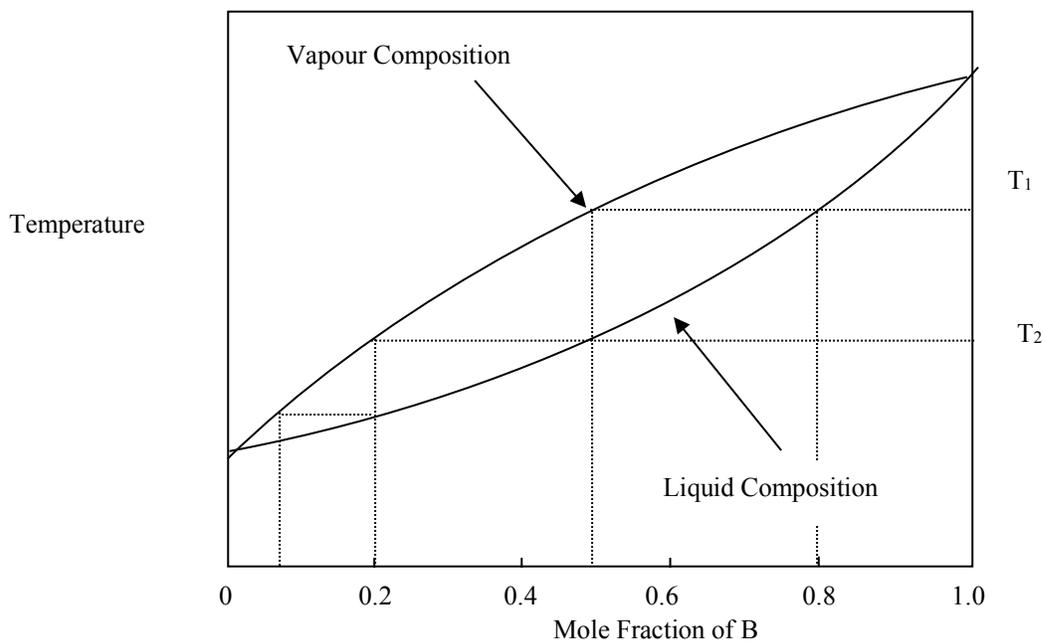

Figure 3.1. Temperature-composition diagram for an ideal two-component mixture
A temperature-composition diagram for an ideal two-component system is given in Figure 3.1.
Figure 3.1 shows that a mixture consisting of 80 mol % B and 20 mol % A (i.e., a mixture in which the mole fraction of B is 0.80 and the mole fraction of A is 0.20) will boil at temperature T_1 . The vapour composition curve shows that the composition of the vapour obtained at this temperature is 50% A and 50% B. If this vapour is condensed and redistilled, its boiling point would be T_2 and the vapour obtained would consist of 80% A and 20% B. Of course, this analysis is highly theoretical: in practice we have a dynamic situation that is constantly changing. For example, as soon as the first few drops of distillate are collected from boiling the original mixture, the mixture becomes depleted of the lower-boiling component (A) and its boiling point rises. However, in theory at least, one should be able to separate a mixture of two liquids into its components by carrying out a series of simple distillations as described above. In practice, the same result can be achieved using a process called **fractional distillation**.